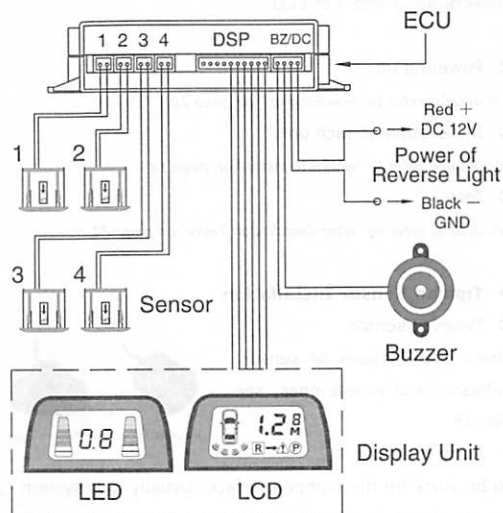
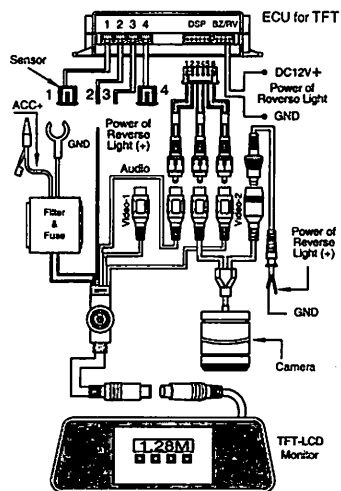

Fig.22 - Connection between each unit of Reverse Aid System
Fig.24 - Connection between each unit of TFTSeries
- ◆ Fig. 22 and 23 are for the connection between each unit of reverse aid system, and that of parking aid system. Fig. 24 is for connection of TFT series.